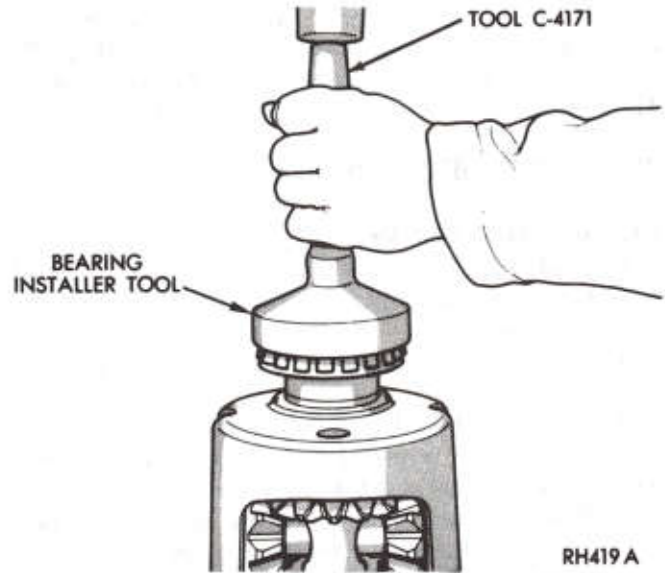

Fig. 41—Seating Bearing Cone
(11) Press the differential case (ring gear) away from the pinion gear to obtain an indicator reading. Repeat until the same reading is obtained each time. This reading will represent the necessary amount of shims required between the differential case and differential bearing on the ring gear side. Remove indicator and differential case from the carrier. Remove differential from case, remove master bearings.
(12) Assemble the required amount of shims onto hub (ring gear side) as determined. Place bearing cone on hub of ease. Use bearing installer Tool C-4025A and Handle C-4171, seat bearing cone (Fig. 41).